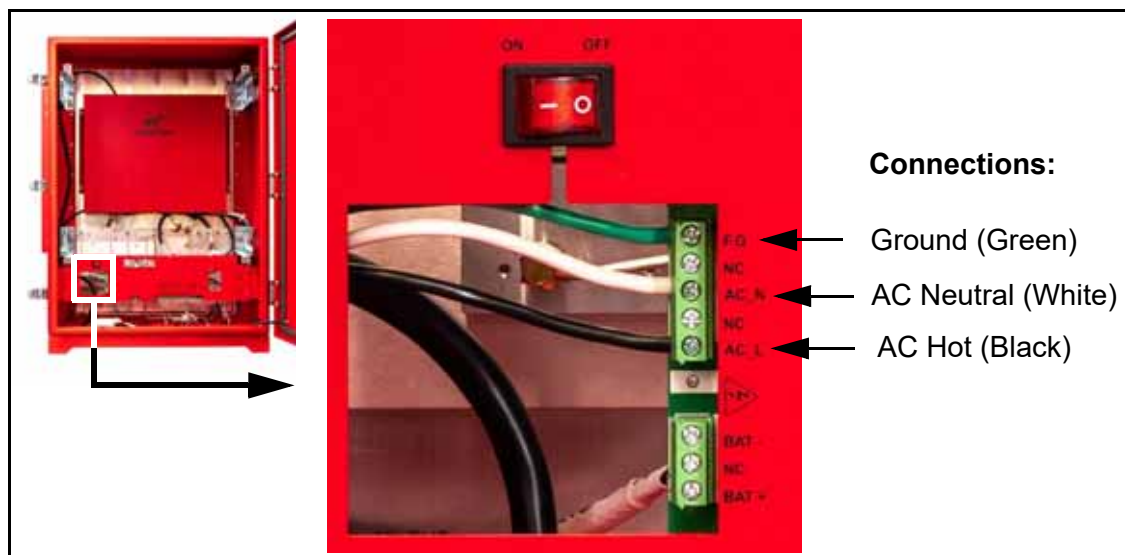

Figure 4-10 AC Power Connections
2. Connect the power cable wires to the AC 100~240V power connector terminals on the Signal Booster as shown in Figure 4-10.